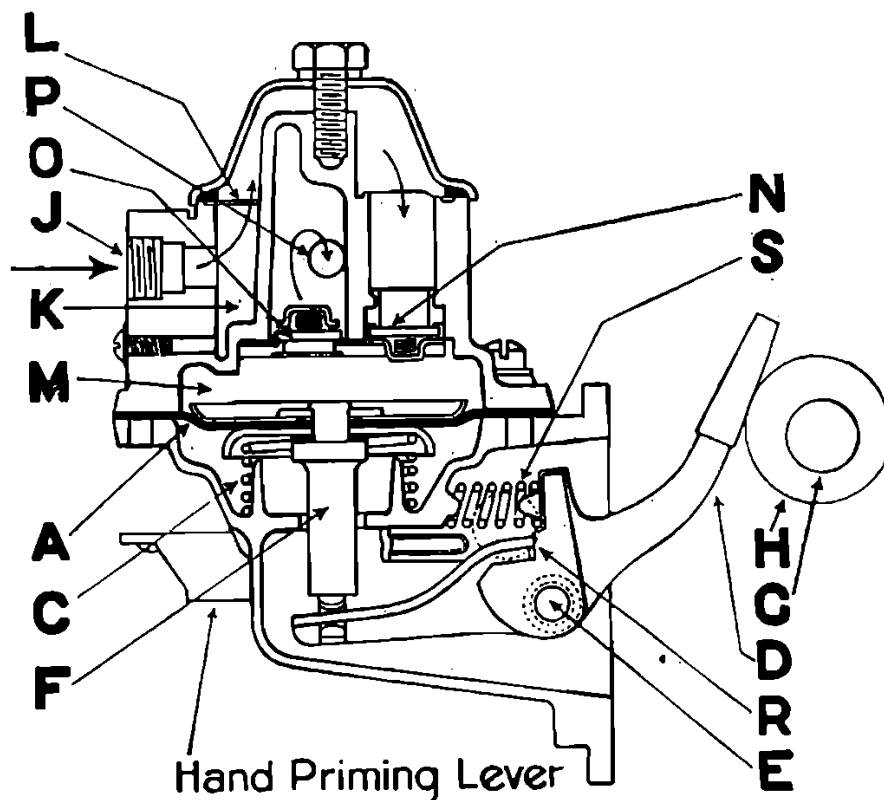

Figure 58. Section of Petrol Pump
The petrol pump is fitted on the manifold side of the engine and is driven by the camshaft. The operation is shown on Fig. 58 and it will be seen that if the eccentric (H) is revolved then the rocker arm (D) will be lifted and as this is pivoted at (E) the pull rod (F) will be pulled downwards together with diaphragm (A) against spring pressure (C), thus creating a vacuum in pump chamber (M).